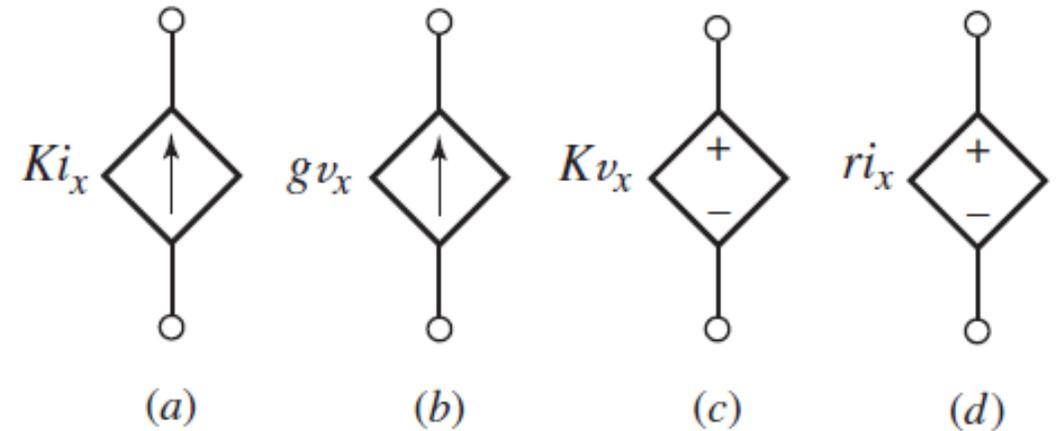

Fig. 4 Circuit symbols for the four different types of dependent sources:
- Fig. 4(d), r is a scaling factor with units of V/A.